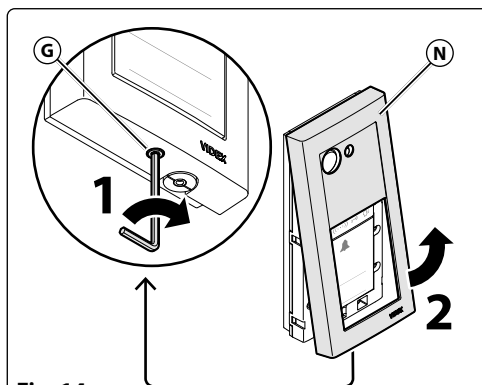

Fig. 14
1. Turn clockwise the frame fixing screw (G) placed in the bottom of the device with the provided allen key until the front frame (N) is free (note: the screw is designed not to be extracted), then remove the front frame lifting it gently from the bottom (Fig. 14).